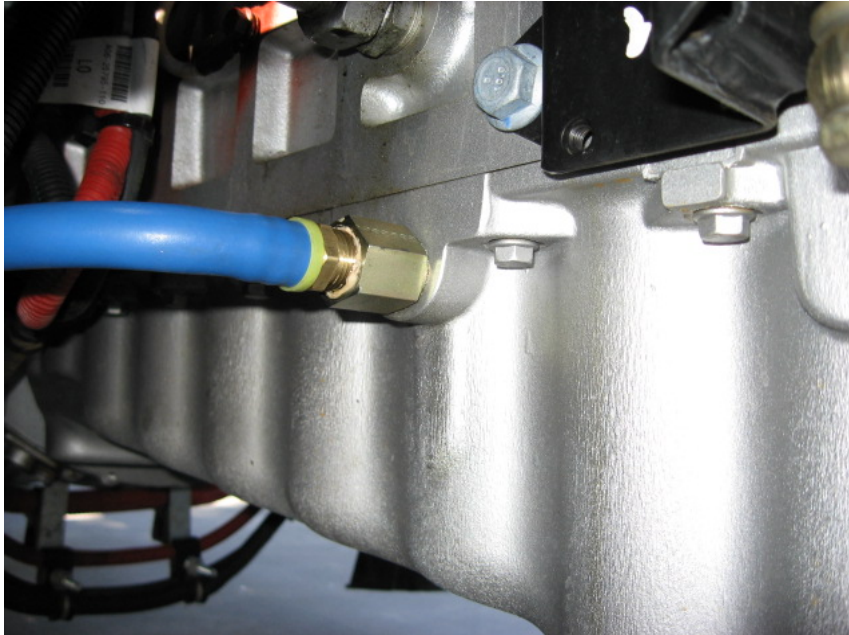

Figure 9 – Location of Return Port Fitting
4. Screw the fitting into the adapter already attached to the engine. See Figure 9.